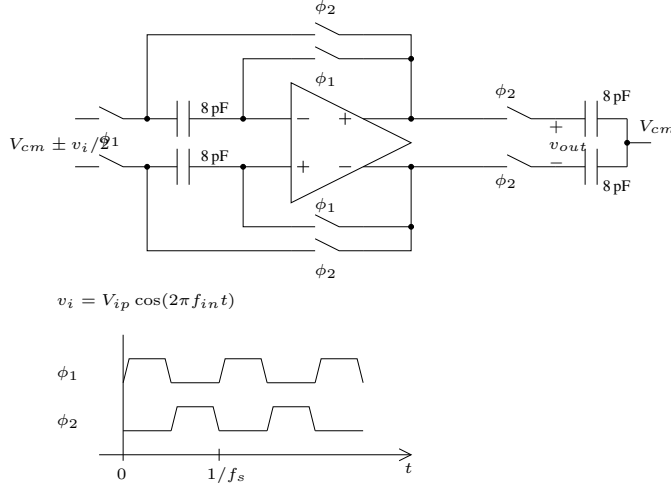

Figure 3: Sample and hold circuit
1. **Sample and hold:** Design the sample and hold circuit in Fig. 3 using the fully differential folded cascode opamp designed above. Use ideal switches with $1k\Omega$ on resistance. Use $f_s = 4MHz$ and $f_{in} = \{1/4, 9/4\} MHz$ (sinusoidal input with $1.6V_{ppd}$ ² amplitude) and plot the output waveforms. Provide a plot that shows the settling behavior of the opamp.